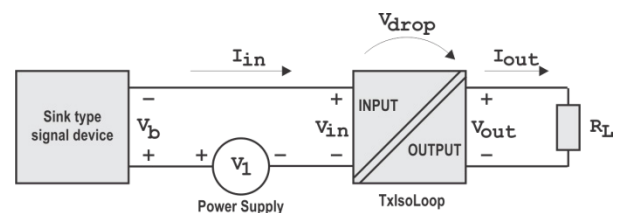

Figure 2 – Connections on the TxIsoLoop with sink type devices
2. With sink type devices (2-wire transmitters), the energy is provided by an external power supply in series in the loop, as shown in **Figure 2**.